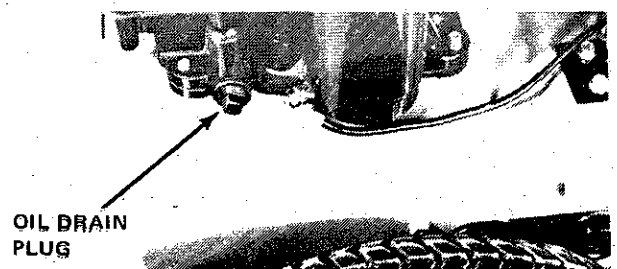

Figure 6-1. Oil Drain Plug
2. Crankcase oil should be drained when engine is warm. Place suitable container under oil drain plug and remove plug (Figure 6-1). Allow oil to drain completely, then replace drain plug. Fill crankcase through cap and gauge hole (Figure 3-4).